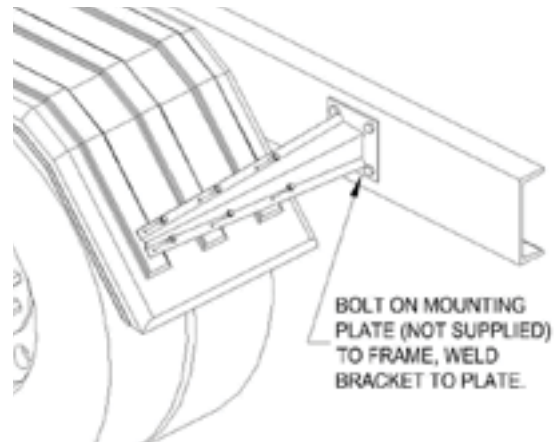

Figure 5
- B. Weld fender bracket to frame. You can bolt a plate (not supplied) to the frame and weld to that plate or just weld the brackets right to the frame if preferred. **Check your owners' manual before welding directly to the frame. Most manufactures suggest that you do not weld anything directly to the frame.** Make sure the brackets are aligned to the fender prior to welding. Plate should be a minimum of $\frac{1}{4}$ " thick steel. See Figure 5.